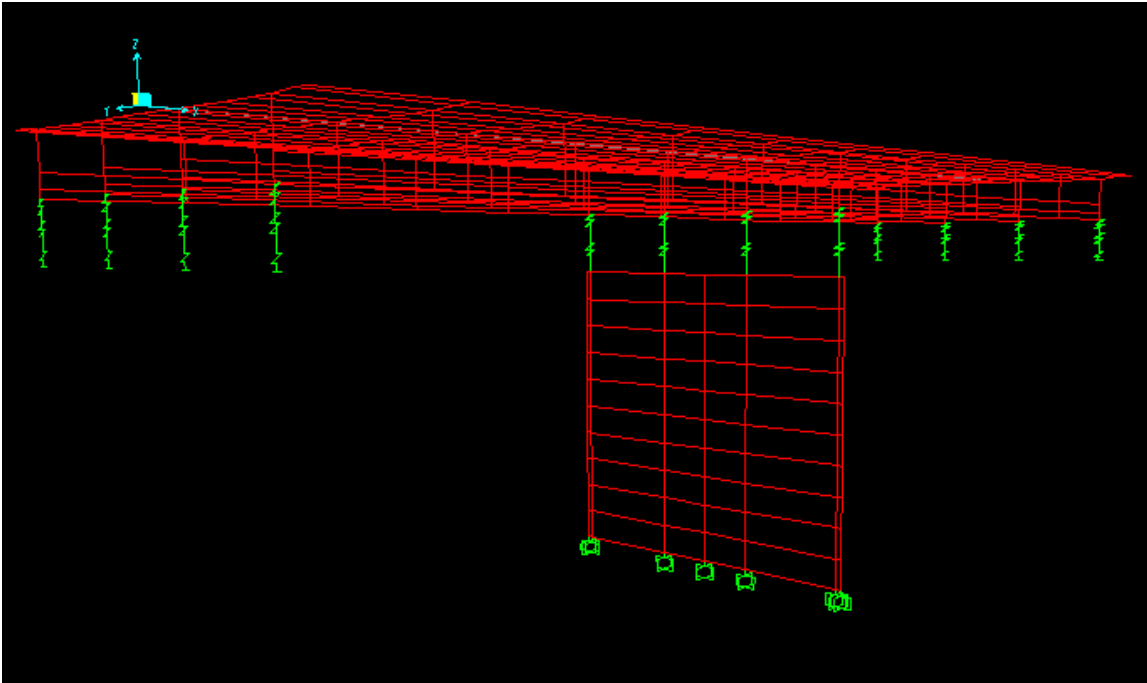

Figure 4 - Wall-type bent
- Select the bottom joints of the wall and assign constraints using the Assign > Joint > Restraints option. The completed model is shown in Figure 4: